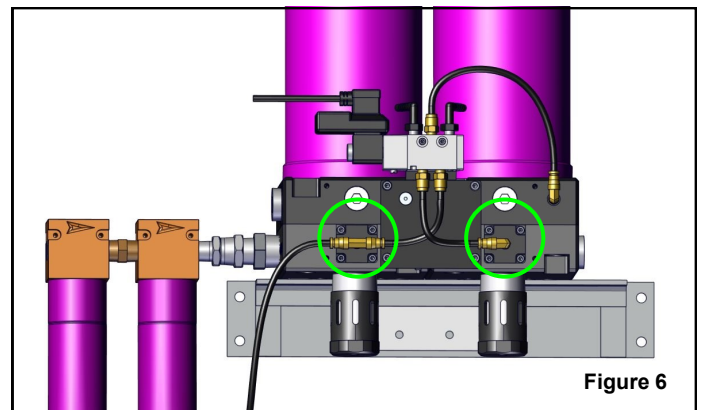

Figure 6
3. Disconnect tubing from quick-connect fitting located on piston cover. Push in on brass ring. While holding ring in, pull out tubing. *Figure 6*